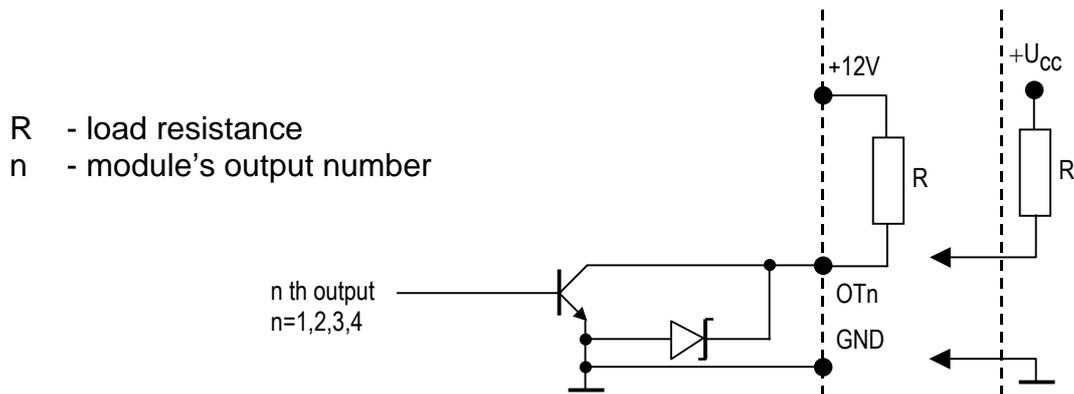

Figure 3.
**Outputs** (OC – open collector type) are intended for connecting the voltage controlled equipment. The configuration of the output and the way of connecting the load are shown in fig. 3.